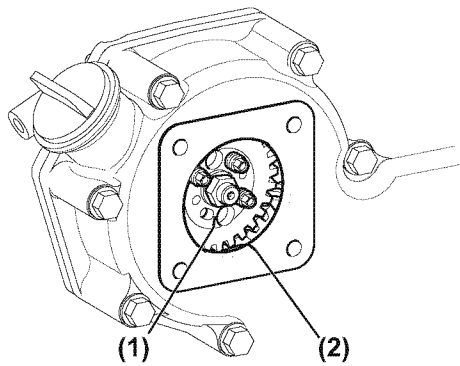

Figure 6-32
- On 3JH5E and 4JH5E models, the idler gear is not visible. Make a reference mark on the fuel injection pump drive gear (Figure 6-32, (1)) and a matching mark on the bore of the gear case opening (Figure 6-32, (2)). *NOTICE: Do not loosen or remove the four bolts retaining the fuel injection pump drive gear to the fuel injection pump hub. Do not disassemble the fuel injection pump drive gear from the hub. Correct fuel injection timing will be very difficult or impossible to achieve.*